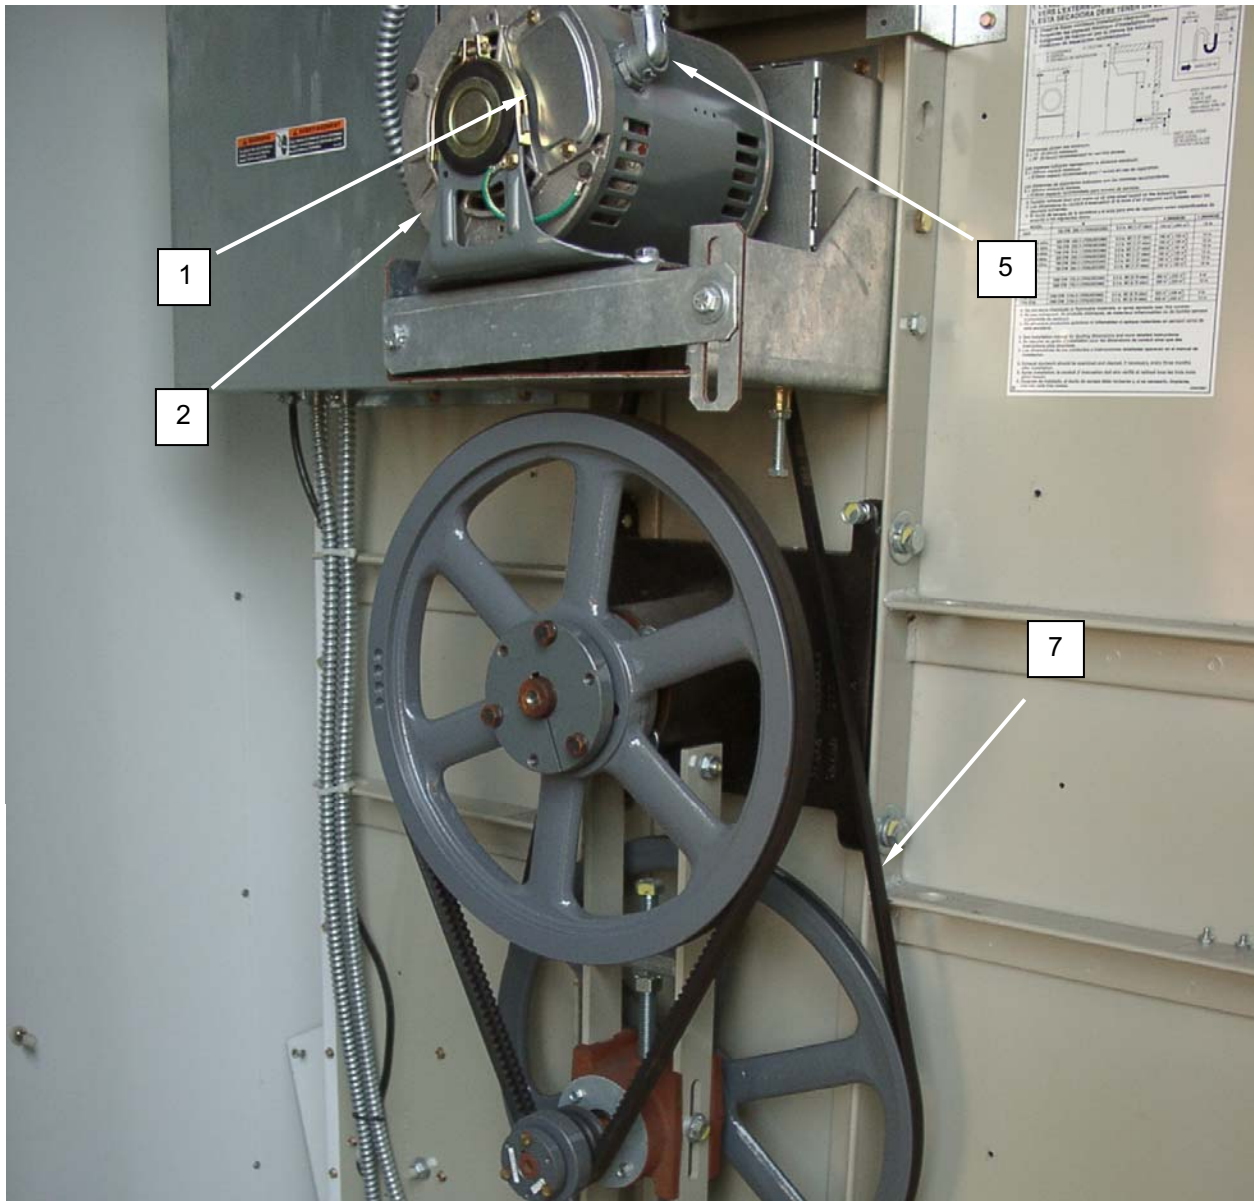

Figure 3. Replace the Cylinder Drive Motor.
3. Remove screws retaining junction box cover (**Figure 3, Item 1**) and remove junction box cover.
4. Tag and disconnect wiring from motor (**Figure 3, Item 2**).
5. Remove conduit locknut, and remove conduit (**Figure 3, Item 5**) from junction box.
6. Adjust motor to relieve tension on belt (**Figure 3, Item 6**).
7. Remove screws, washers, and nuts retaining motor (**Figure 3, Item 2**) to motor mount and remove motor.
8. Install replacement motor (**Figure 3, Item 2**), and secure in place with screws, washers, and nuts.
9. Install inner belt (**Figure 3, Item 7**) onto replacement motor (**Figure 3, Item 2**) and adjust to ½-inch deflection.
10. Remove screws retaining junction box cover (**Figure 3, Item 1**) on replacement motor (**Figure 3, Item 2**), and remove cover.
12. Install conduit (**Figure 3, Item 5**) into junction box, and retain with locknut.
13. Connect wiring to replacement motor (**Figure 3, Item 2**) as tagged.
14. Install junction box cover (**Figure 3, Item 1**) onto replacement motor (**Figure 3, Item 2**), and retain with screws.